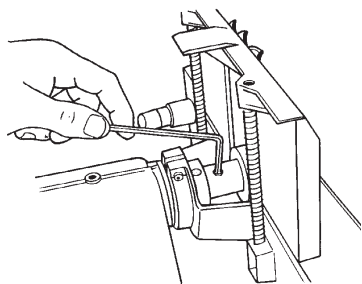

Figure C-64
- 79. Loosen the accessory mount lock and remove the extension table. Loosen the table height lock and remove the worktable. Place the saw blade and arbor in the lower saw guard cover (204).
80. Fit the lower saw guard's clamp on the spindle quill (59). Line up the arbor set screw with the spindle knob's set screw (where the spindle flat is located). Use a 5/32" Allen wrench to tighten the arbor set screw, as shown in Figure C-64.